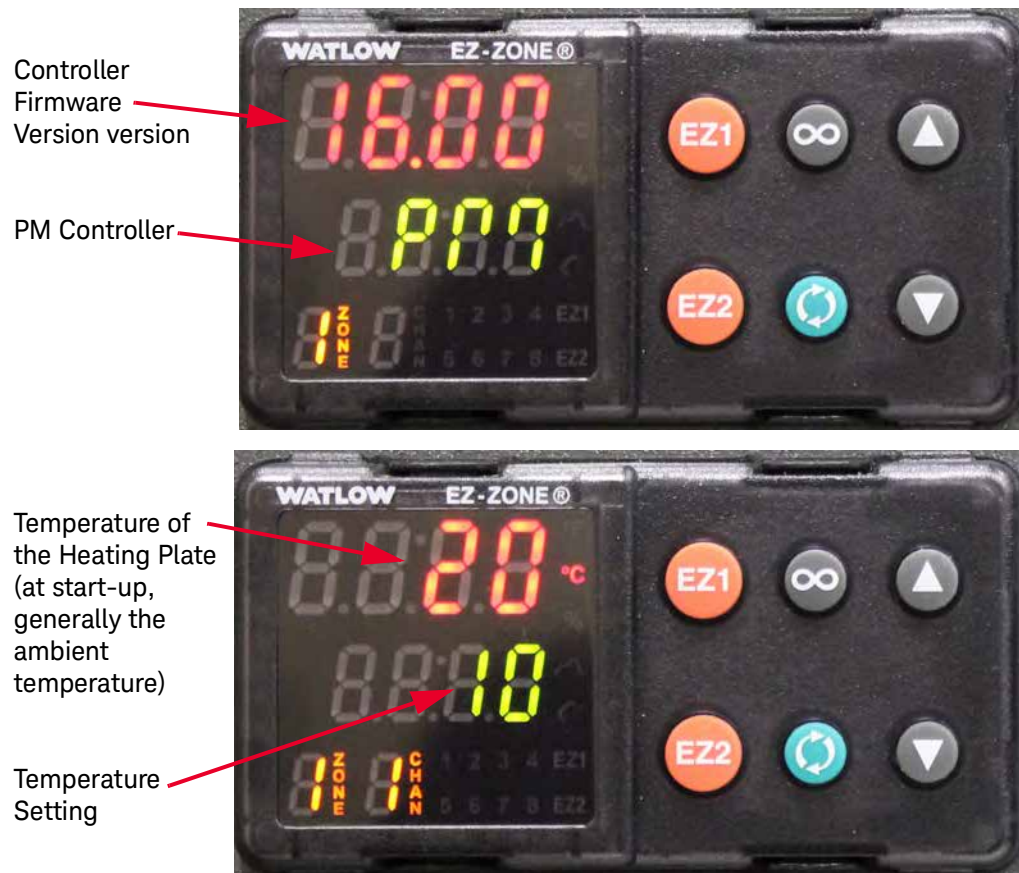

Figure 41 Watlow Controller Turn-on Sequence
- 12 Plug in the PD1550A system and turn it on. Press the **Reset** button on the front of the PD1550A system. The Watlow Control Unit should turn on. See Figure 41 on page 84.